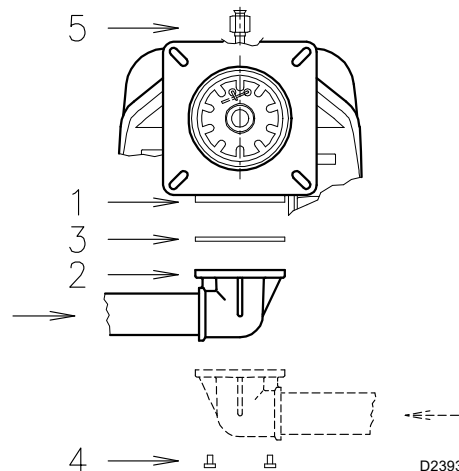

Fig. 16
- connect gas train and pilot train as shown in Fig. 16, page 19.
The main gas train must be connected to the gas attachment 1)(Fig. 16), using flange 2), gasket 3) and screws 4) supplied with the burner.